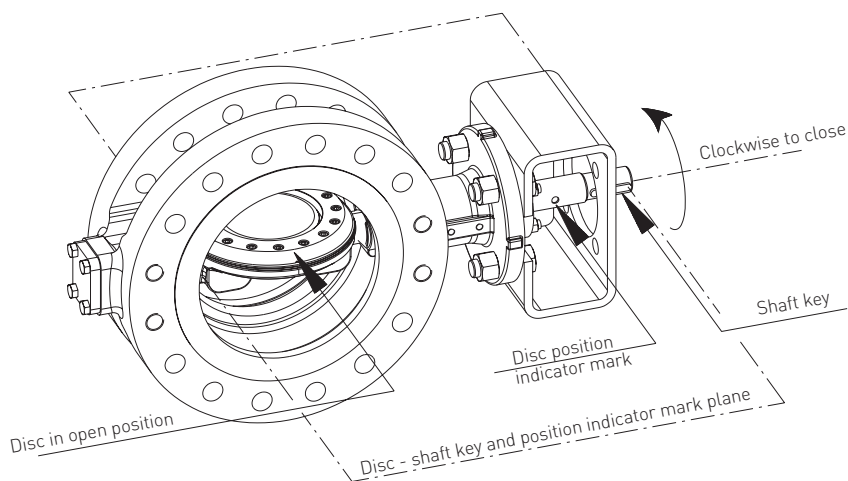
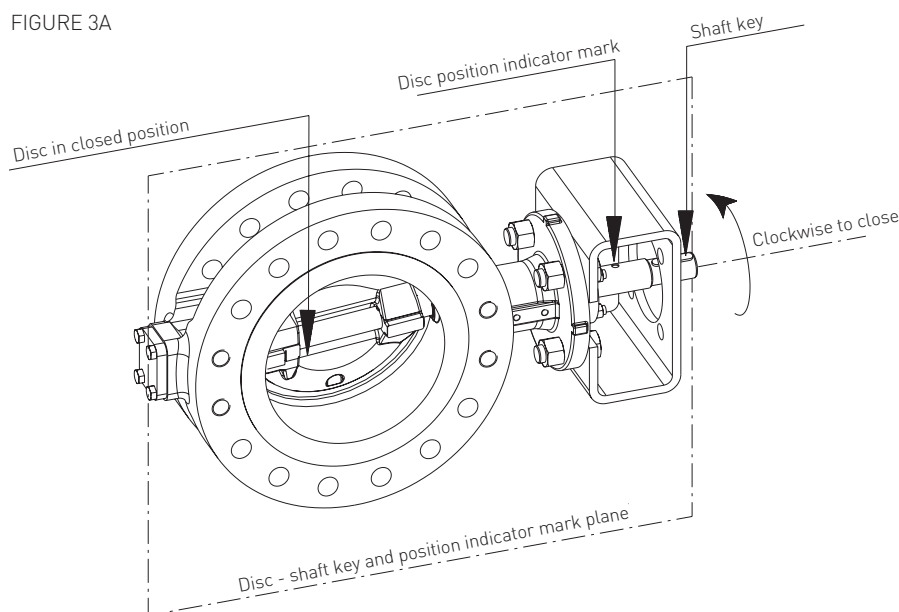

FIGURE 3A
FIGURE 3B
2. Check the operability of the valve by stroking it to "full open" and "full close". To verify the valve orientation, the disc position indicator mark on the shaft (during the normal open to close cycle) should rotate clockwise from a position in line with the pipe (see figure 3A) to a position parallel to the pipe flanges (see figure 3B).